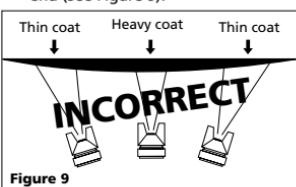

Figure 9
2. Keep the nozzle about 6 to 9 inches from the work surface throughout the stroke and always keep the gun in motion while spraying. Stopping gun movement in mid-stroke will cause a build up of paint and result in runs. Do not fan the gun from side to side while painting. This will cause a build-up of paint in the center of the stroke and an insufficient coating at each end (See Figure 9).
3. Keep the nozzle about 6 to 9 inches from the work surface throughout the stroke and always keep the gun in motion while spraying. Stopping gun movement in mid-stroke will cause a build up of paint and result in runs. Do not fan the gun from side to side while painting. This will cause a build-up of paint in the center of the stroke and an insufficient coating at each end (See Figure 9).